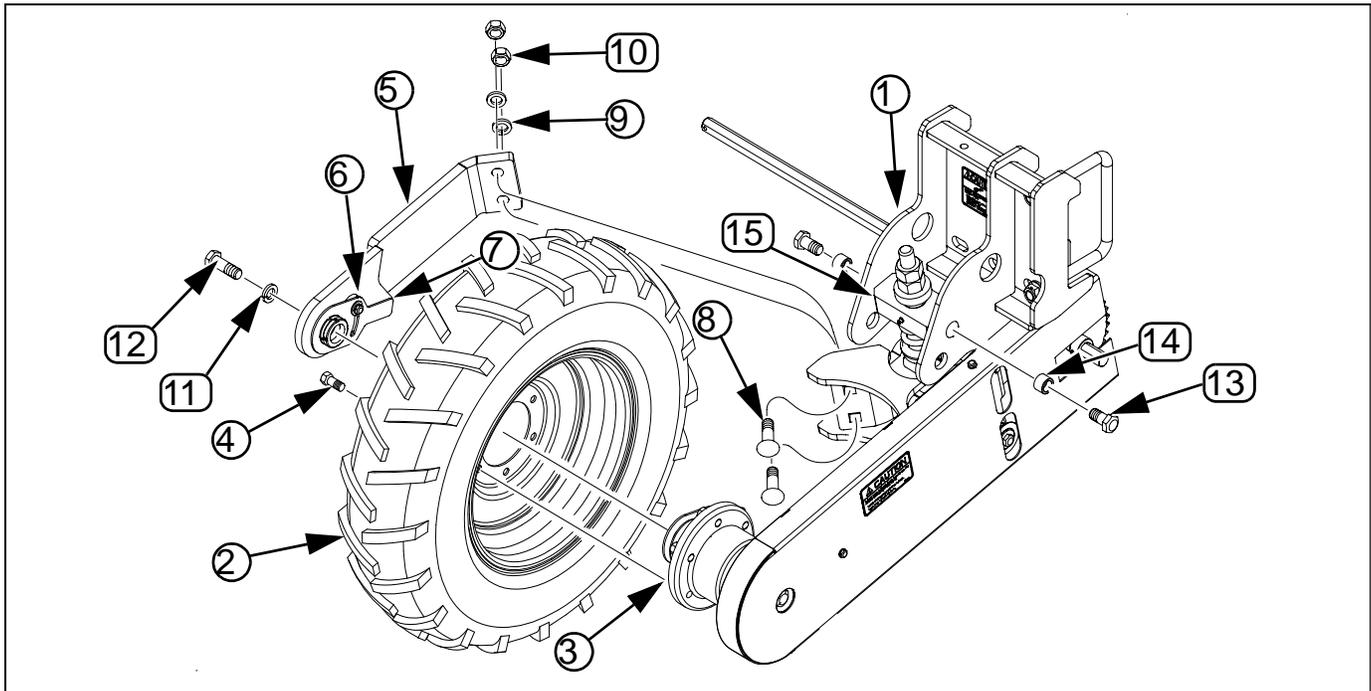

Figure 4
Before installing the gauge wheel assemblies, check the area above the mounting weldment ① for a gullwing switch. Refer to Figure 4.
Refer to Figure 4